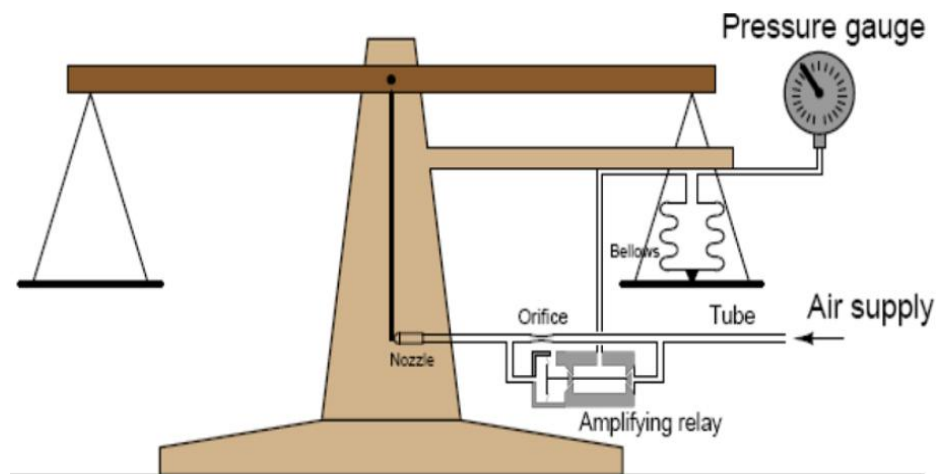

Figure 3(b) Self balancing force instrument system
- (b) Figure 3(b) shows the self-balancing force instrument system.
Write the operating principle of this system based on Figure 3(b)